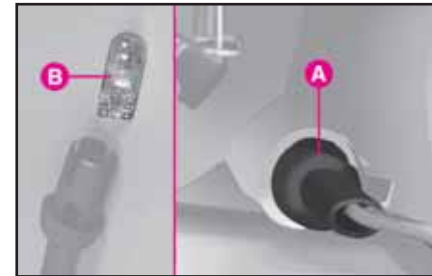

fig. 15
2) Remove the bulb holder - **fig. 15-A** by turning it and replace the bulb **B**.